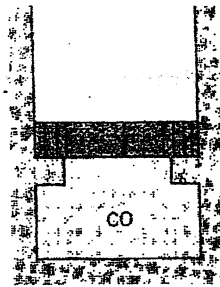

Figure P.10
10. Carbon monoxide (2 kg), contained in the piston-cylinder device as shown in Figure P.10, is initially at a pressure of 1.0 MPa and a temperature of 50°C . Energy is added until the final temperature is 500°C and the pressure is 2.0 MPa. A pressure of 2.0 MPa is required to lift the frictionless piston from the stops. Show the process on P-V and T-V diagrams and determine the total work transfer and total heat transfer. [Take $R = 297 \text{ J/kg K}$, $C_V = 743 \text{ J/kg K}$]